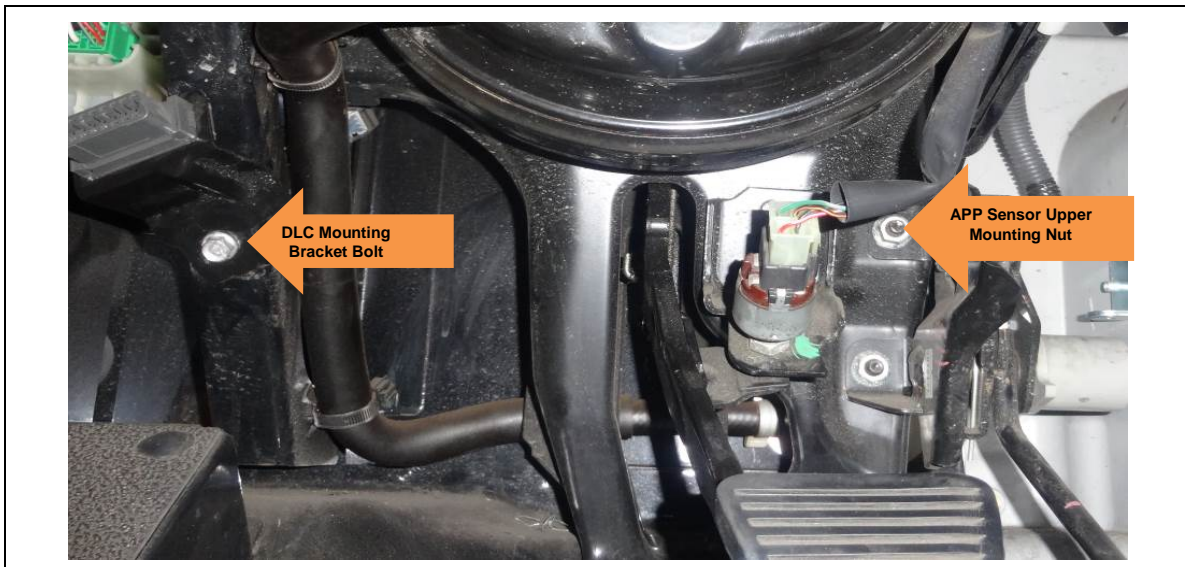

Figure 7 – DLC Connector Mounting Bracket Bolt and APP Sensor Upper Mounting Nut
1. Remove the Diagnostic Link Connector (DLC) mounting bracket bolt (See Figure 7).
2. Remove the APP sensor upper mounting nut (See Figure 7).